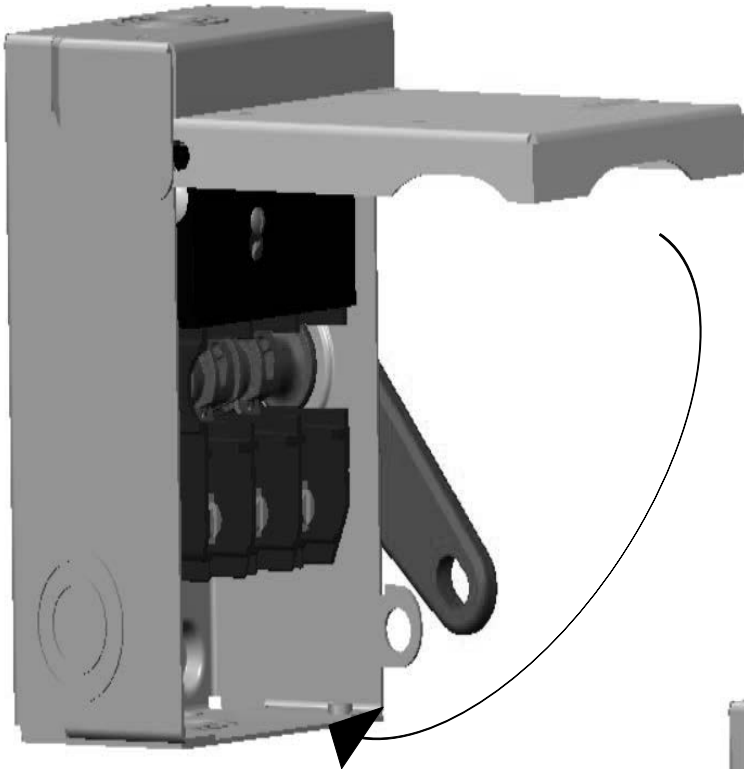

Fig. 5a
6. Close cover before restoring power to the safety switch. See Fig. 5a & 5b